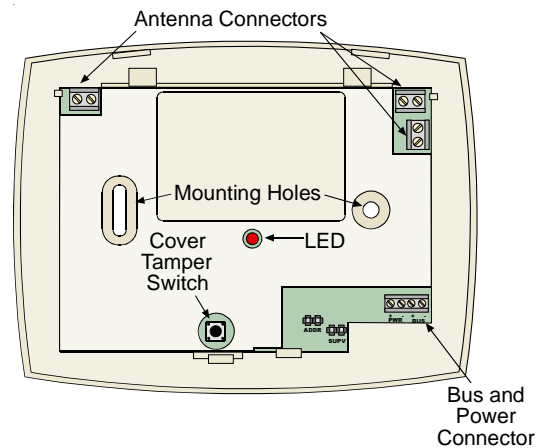

Figure 5- Receiver with outer cover removed
- Place the receiver base on the wall at the desired mounting location and mark the two mounting holes (see Figure 5).